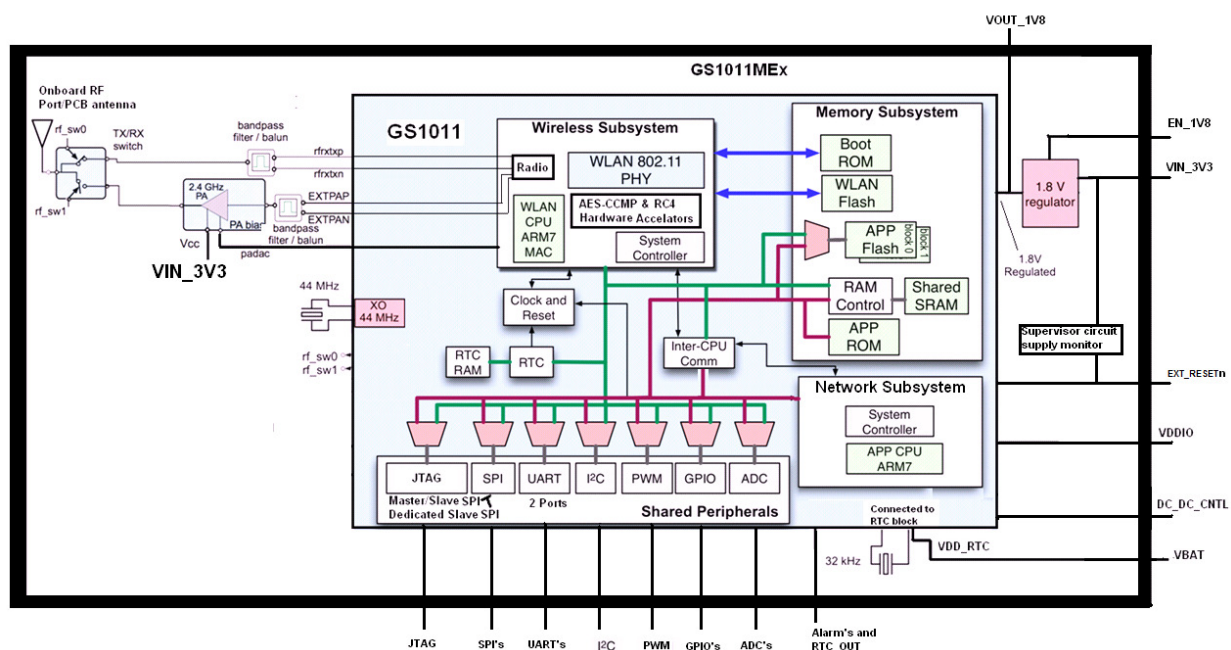

Figure 2-2: GS1011MEx Block Diagram
- The extended range module option has a capability of +18dBm output power at the antenna connector (see Figure 2-2).